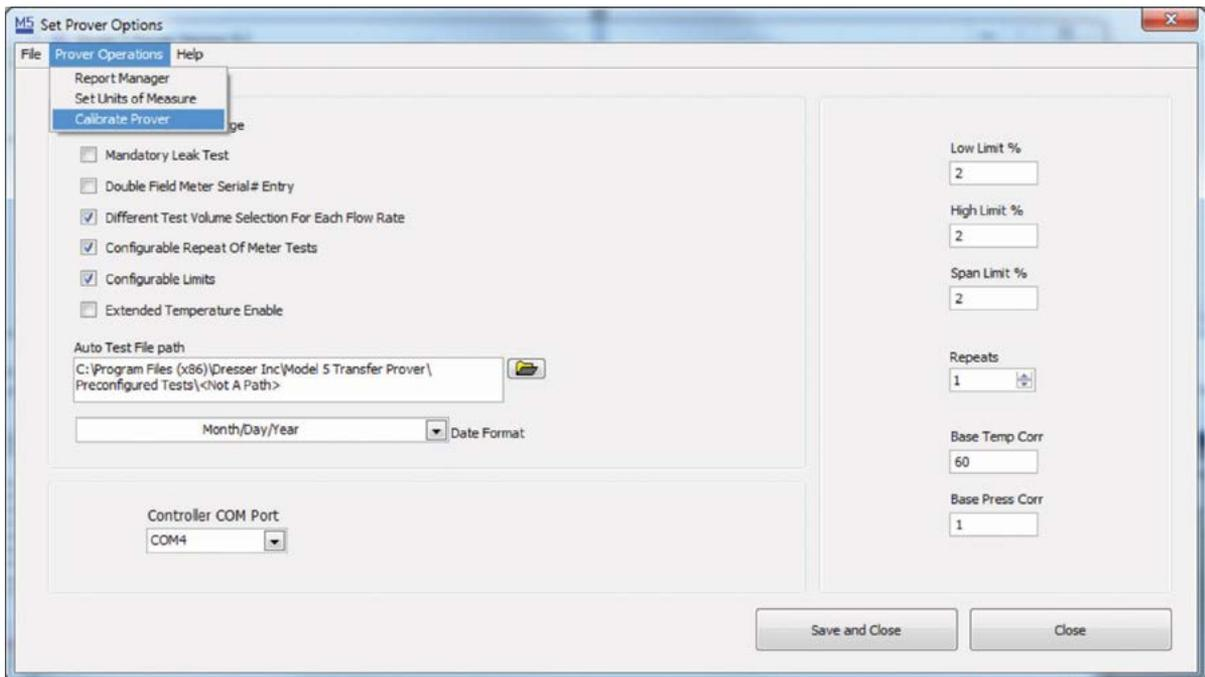

Figure 59: Calibrate Prover
11. Click “Prover Operations”. Then click, “Calibrate Prover” as shown in **Figure 59**. The password is “DRESSER”.